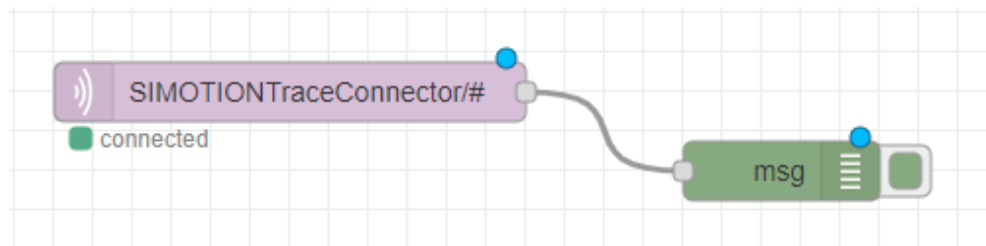

Figure 27 Nodes connection
9. Connect “SIMOTIONTraceConnector/#” and debug nodes (Figure 27)